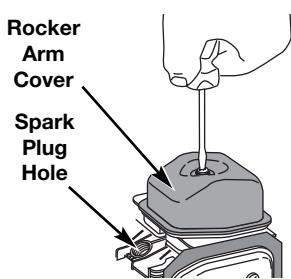

Fig. 33
- Clean dirt from around the rocker arm cover. Remove the screw holding the rocker arm cover with a large flat blade screwdriver or Torx T-25 bit (Fig. 33). Remove the rocker arm cover and gasket.
- The piston is at the top of its travel while looking in the spark plug hole (Fig. 33)